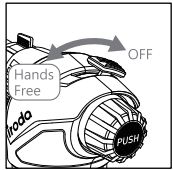

Fig.5
- For continuous flame, slide the **Hands-Free Lever** to the LEFT/HOLD position. Then release the Ignition Button. (Fig.5)
- To extinguish the flame, slide the **Hands-Free Lever** to the RIGHT/OFF position and turn the **Gas Control / Ignition Button** clockwise to turn off the gas. (Fig.5)